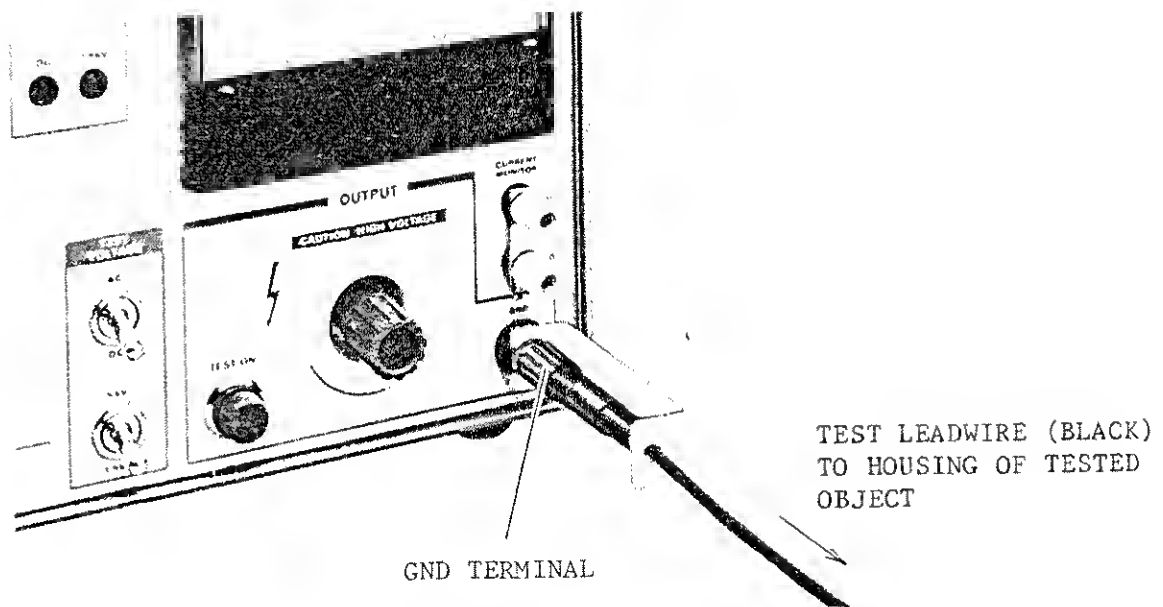

Figure 3.1
- (1) Be sure to connect securely the GND terminal to a good grounding earth line. If grounding is imperfect, the instrument casing can be charged to the high voltage of the instrument when the output is shorted to the ground line or power line and hazards can be caused to the operator when he touches the instrument.
- (2) The connection method of the test leadwire of the GND side is shown in Figure 3.1. Be sure to check for that this leadwire is not open, each time the instrument is used. Also be sure to connect at first the GND terminal to the ground line of the measured object. If it is not securely connected, the measured object becomes a floated state and a dangerously high voltage may be built up in the measured object.
- (3) Be sure to wear gloves whenever operating this instrument, in order to guard against electric shock hazards.
- (4) Before turning on the power switch, make it sure that the TEST VOLTAGE dial is in the counterclockwise extreme position ("0" position).